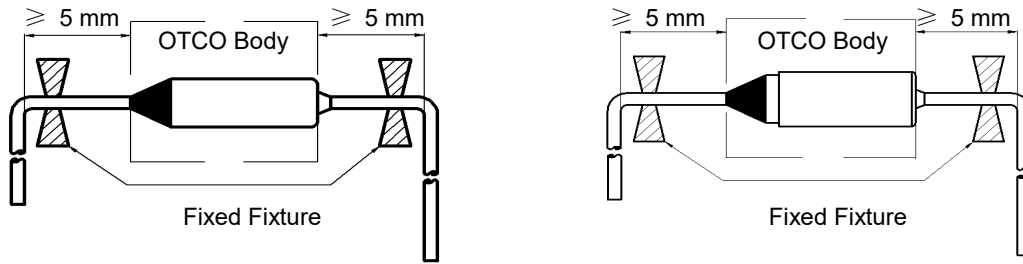

FIGURE 1
2. The lead wires should be bent at a distance 5 mm or above from the body of OTCO (see Fig.1).